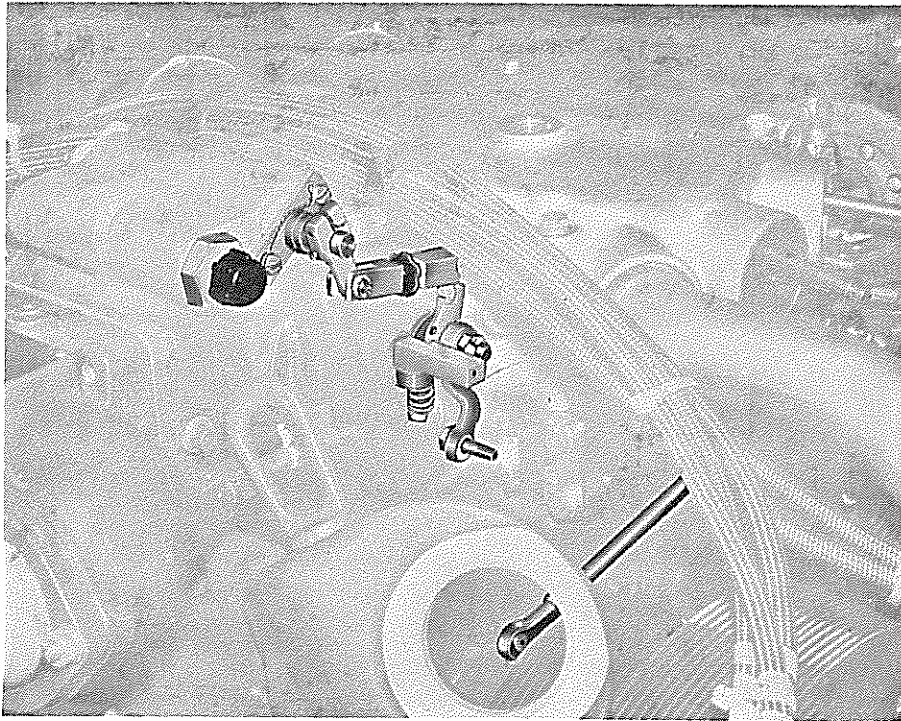

Figure 5-5. Obtaining Clearance of Throttle Lever in Closed Position
d. Place gage (ST-318) over injector stop pin with side marked ".040" down and between pin and end of idle stop adjusting screw. Do not turn from full closed setting at this time. See figure 5-5.